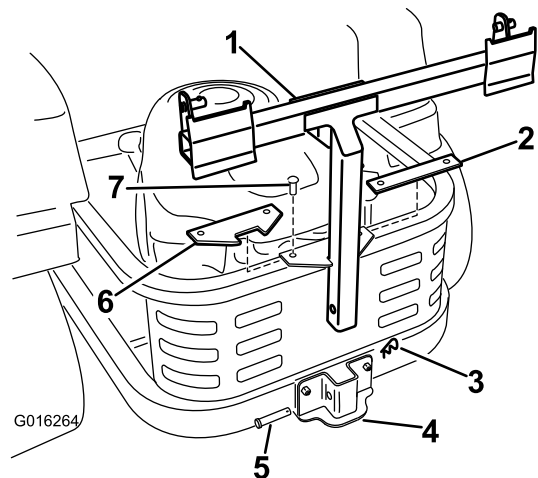

Figure 5
5. Install the bagger frame to the support bracket. Secure the bagger frame with a clevis pin (1/2 x 2-1/4 inch) and hair pin cotter (Figure 5).